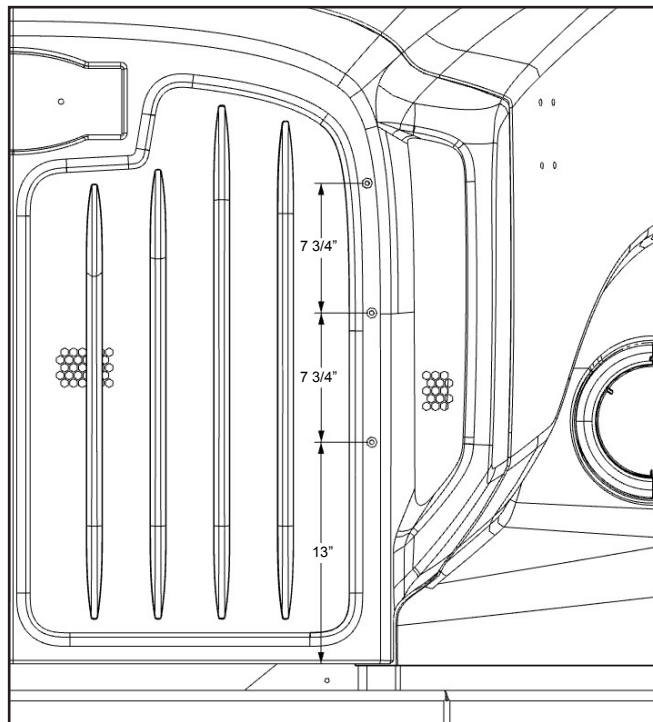

Figure 2
4. Remove the grill from the hood and using a 1/4" drill bit, drill six holes in the grille starting at the bottom of the grille measure up 13" for the first hole. Then measure 7 3/4" up from the first hole to the second hole. From the second hole, measure another 7 3/4" for the third hole. Repeat this process for the opposite side of grille until all six holes have been drilled (see Figure 2).